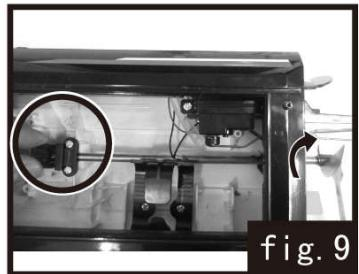

fig. 9
- 9.Hold down the main shaft rubber,using a wrench tightened the screw down and propeller (see fig.9)